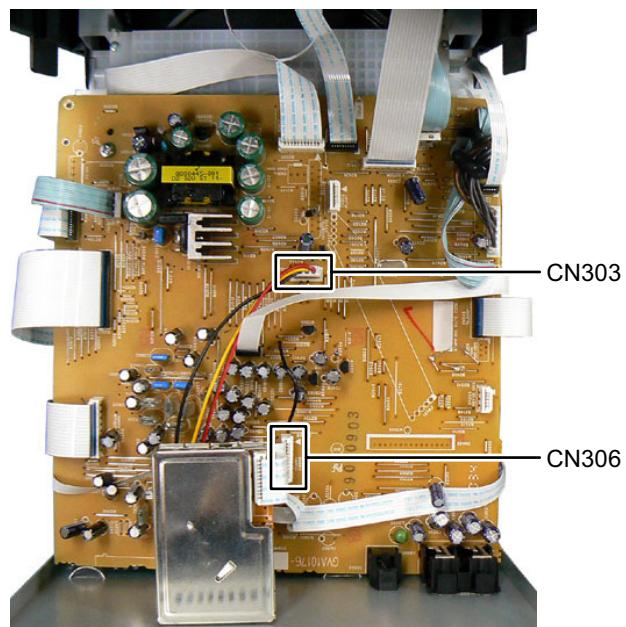

Fig.4
3.1.2 Removing the Rear panel (See Fig.4, 5)
- (1) Disconnect the card wire from Tuner pack connected to connector CN306 of the Main board. (See Fig.4)
- (2) Disconnect the connector wire from FAN connected to connector CN303 of the Main board. (See Fig.4)